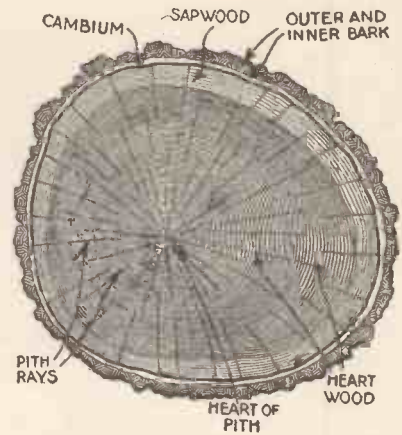

Fig. 1.—Cross-section through the trunk of a timber-bearing tree, showing its formation.
**Annual Rings.**—The rings to be seen on the cross section of a tree trunk. One is formed each year, and thus the age of the tree can be determined from the number of concentric rings. (See Fig. 1.)